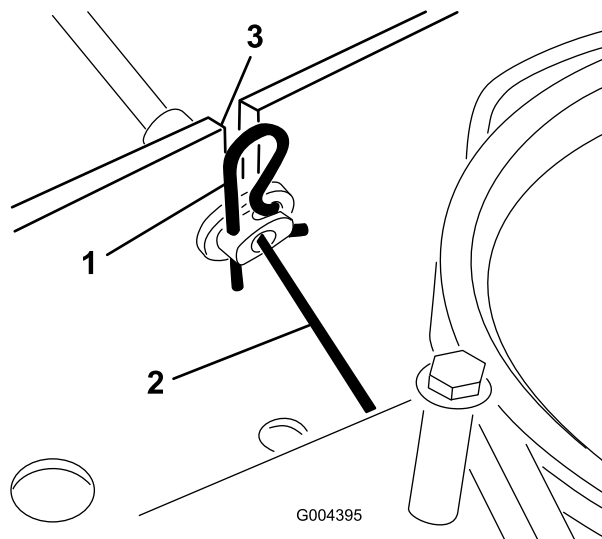

Figure 3
6. From the right side of the unit, locate the other end of the deck engagement cable on the cross brace at the back of the deck (Figure 3).
7. At the cable end, remove the hairpin clip, pull back on the cable housing until the metal portion of the cable is in the cross brace slot, and lift the cable out of the slot (Figure 3).